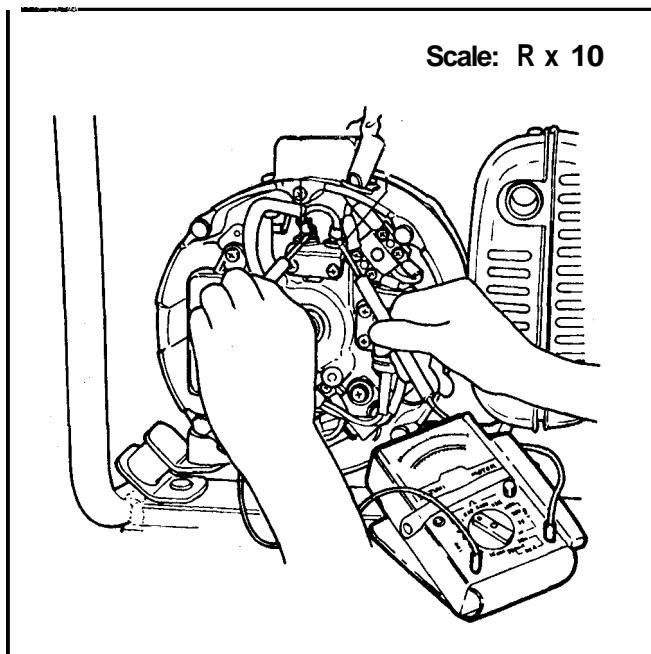

Figure 137
6. Place your multimeter on the R X 1 scale and measure the resistance of the rotor through the brushes. See Figure 137.